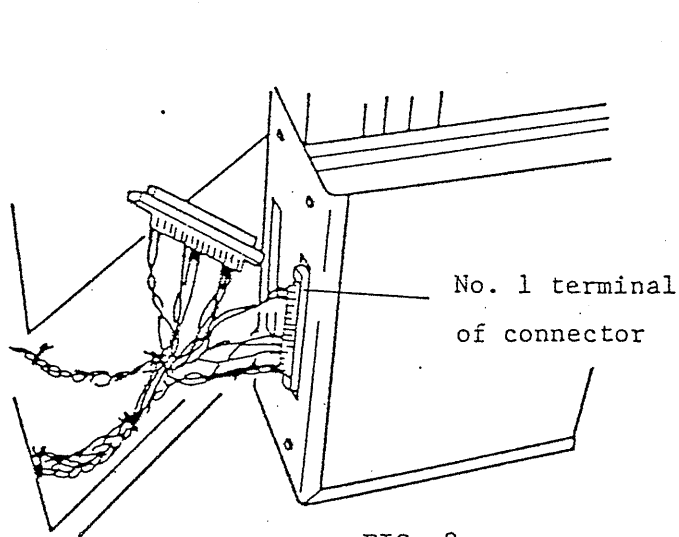

FIG. 8
- 5) Insert the connector of main unit of PAE in the D/A converter. (See Figure 8.) There are two connectors. Identify them by their colors. (See Table 1.)